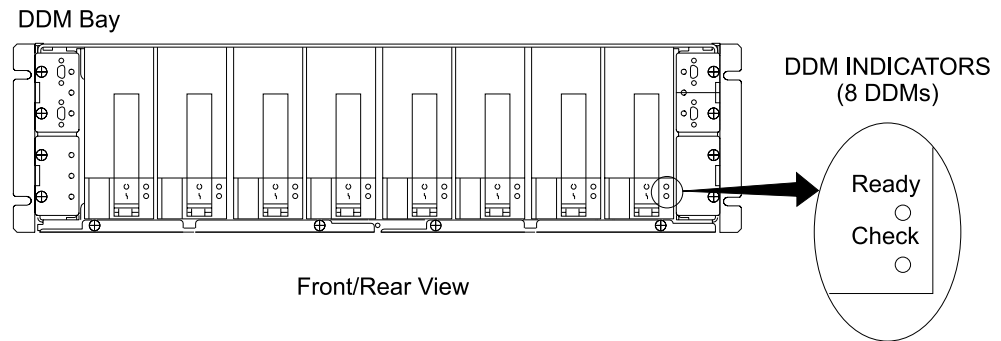

Figure 78. DDM Bay DDM Indicator Locations (S008021I)
19. Locate DDM bay-A, it may be located in the front or rear of the 2105. Observe all of the DDM bay DDM indicators, see Figure 78.
32. Locate DDM bay-B, it may be located in the front or rear of the 2105. Observe all of the DDM bay DDM indicators, see Figure 78 on page 163.